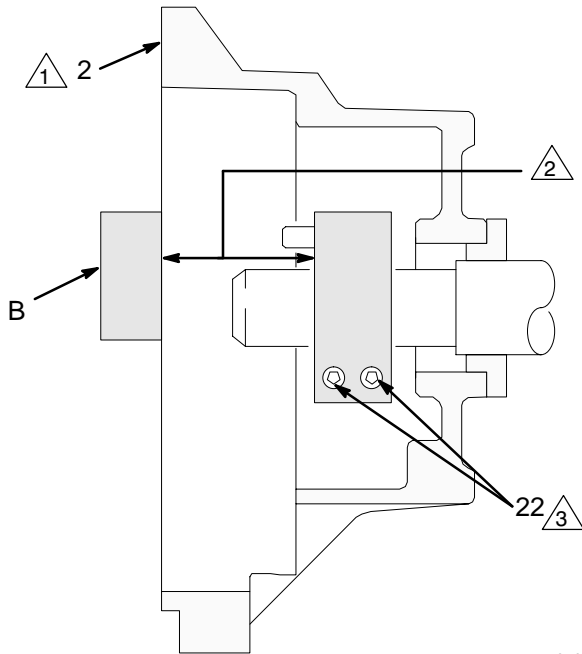

Fig. 21
4. Press the **clamp (3)** onto the engine shaft (A). Maintain the 1.084 inch \pm 0.01 (27.53 \pm 0.25 mm) dimension shown in Fig. 21.